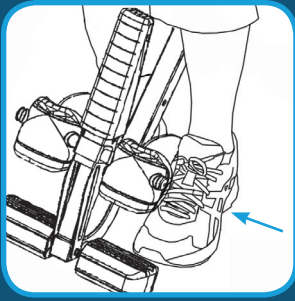
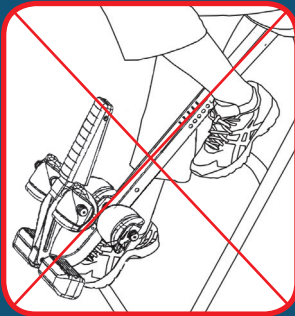

Figure 5
Figure 6
- Step over the Main Shaft, placing your feet on the floor on either side. Press down and push out on the ratchet to open the Ankle System. To balance yourself, rest only your lower body against the Table Bed as you slide one ankle at a time between the ankle clamps onto the Ankle Comfort Dial. Be sure to slide your ankle in from the side (Figure 5); **DO NOT** insert the foot through the ankle clamps as you would slide your foot into a shoe. Your feet should always be either on the floor or on the Ankle Comfort Dial; never use any other part of the inversion table as a step (Figure 6) .